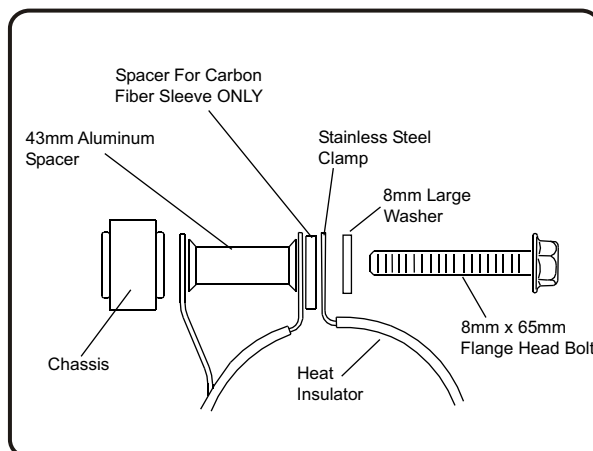

Fig. 2
- 5 Mount muffler clamps to chassis using supplied bolts, washers and spacers. (See Fig.2&3)